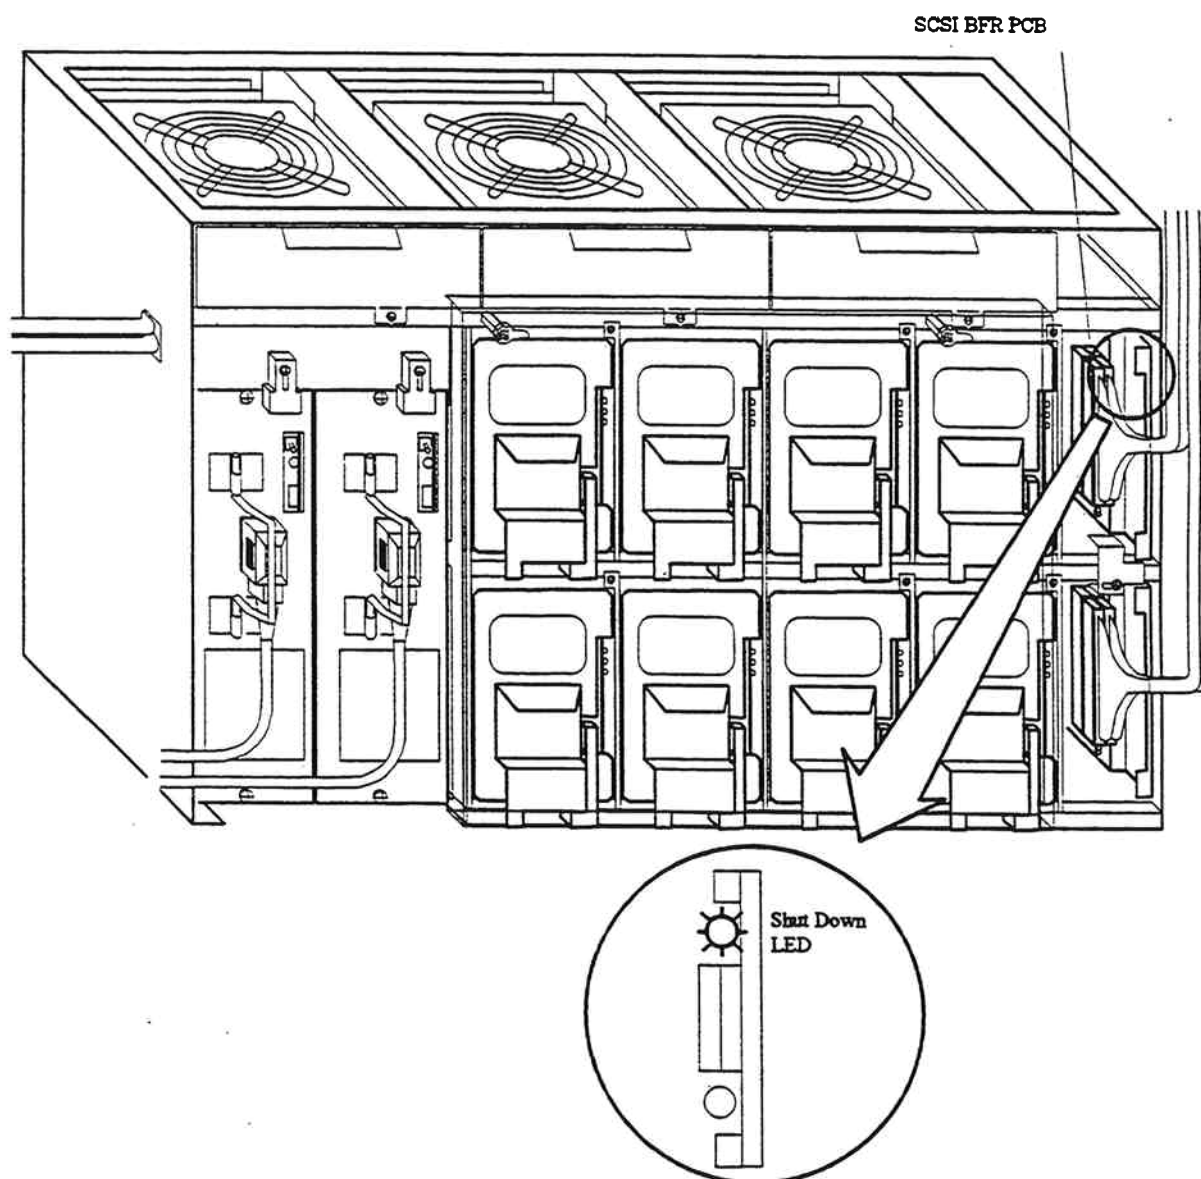

Fig. 3.4.3.2.4-1 Confirmation of the Shut Down LED Light
2. Disconnect the SCSI interface cables from the SCSI BFR PCBs in the first DKU chassis referring to figures 3.4.3.2.4-2 and 3.4.3.2.4-3.